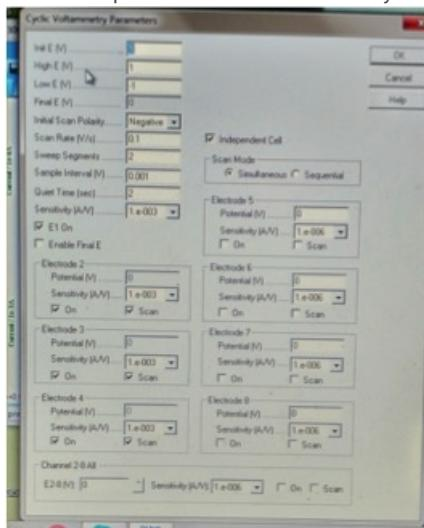

Figure 5. Software settings for CV analysis.
- Set up software settings for a cyclic voltammetry (CV) sweep as for Figure 5. A cyclic voltammetry sweep at the beginning generates a "before" profile of the electrochemically active substances in the experiment, for comparison to after.
- 6 ■ Perform 3 x CV runs (Software settings in Figure 5). Save these after each run.